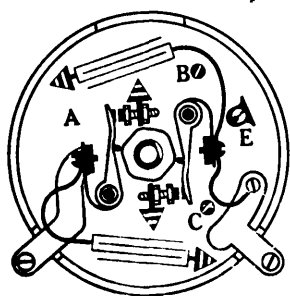

FIG. 2.
5. If points are found out of synchronism loosen the three locking screws marked "A", "B" and "C" (Fig. 2), which lock the Sub Plate in position, and move the entire breaker point assembly carried on the breaker plate Sub Plate by turning the eccentric adjusting screw ("E", Fig. 2).